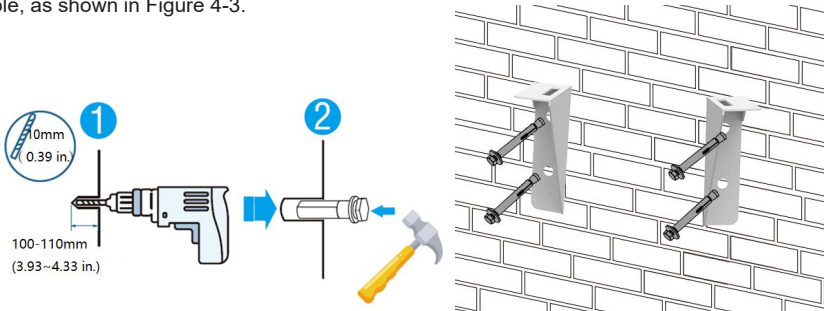

Figure 4-3
- g) Choose the recommend drill head (as shown in Figure 4-3) to drill 4 holes on the wall,100mm-110mm deep.
- h) Use a hammer to secure the support to the wall,and install the expansion bolt in the hole, as shown in Figure 4-3.